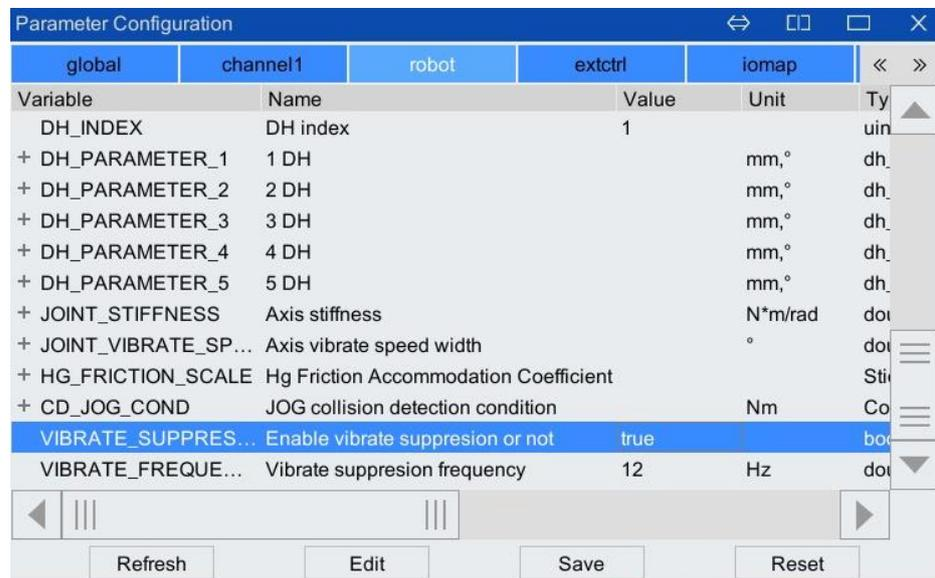

Figure 10-13 [Robot] tab
Step3. In the [Robot] tab, select "Enable vibrate suppression (VIBRATE_SUPPRESSION_ENABLE)", and click the <Edit> button. As shown in Figure 10-13.